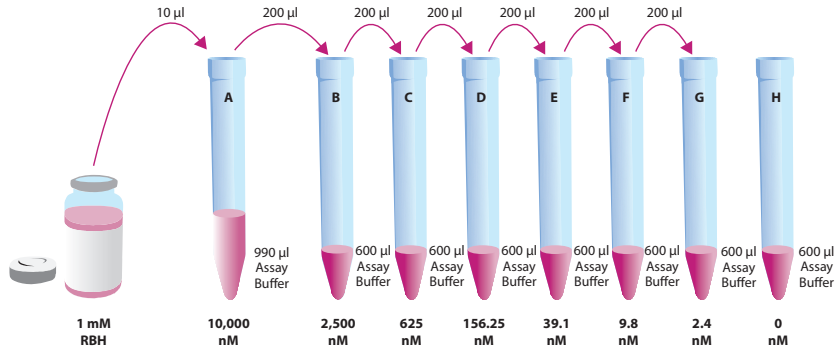

Figure 2. Preparation of RBH standards
14. Prepare the RBH standards according to Figure 2: Label eight microcentrifuge tubes A-H. Aliquot 990 μl of Protein Carbonyl Assay Buffer into tube A and 600 μl into tubes B-H. Transfer 10 μl of the 1 mM Protein Carbonyl RBH to tube A and mix thoroughly. Serially dilute the standard by removing 200 μl from tube A and placing it in tube B; mix thoroughly. Next, remove 200 μl from tube B and place it in to tube C; mix thoroughly. Repeat this process for tubes D-G. Tube H contains Protein Carbonyl Assay Buffer only.